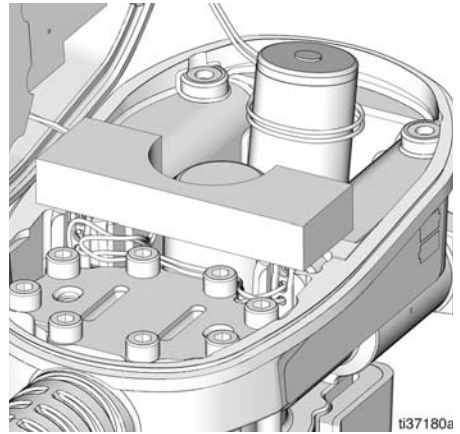

FIG. 11
7. Install new Foam (38) retainer. This holds the power cable in place. The foam is shown in the installed position (FIG. 11).